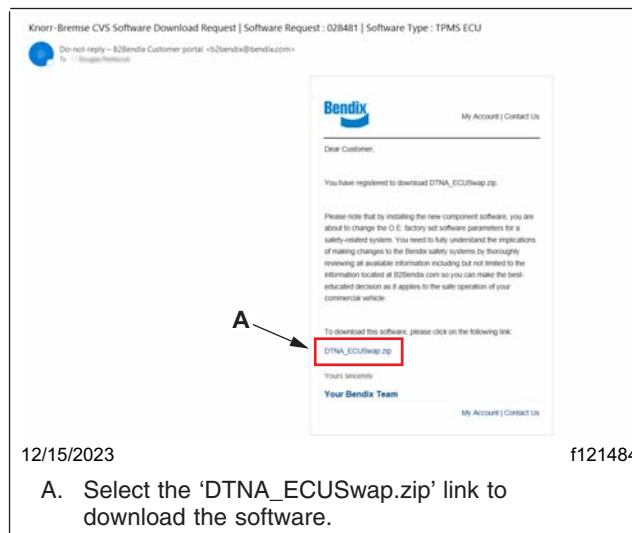

Fig. 16, Email Received from the Bendix Team
- 1.5 An email, as shown in **Fig. 16**, is received on the email address entered in the previous substep.
- 1.6 To download the software, select the 'DTNA_ECUSwap.zip' link provided within the email. See **Fig. 16**.